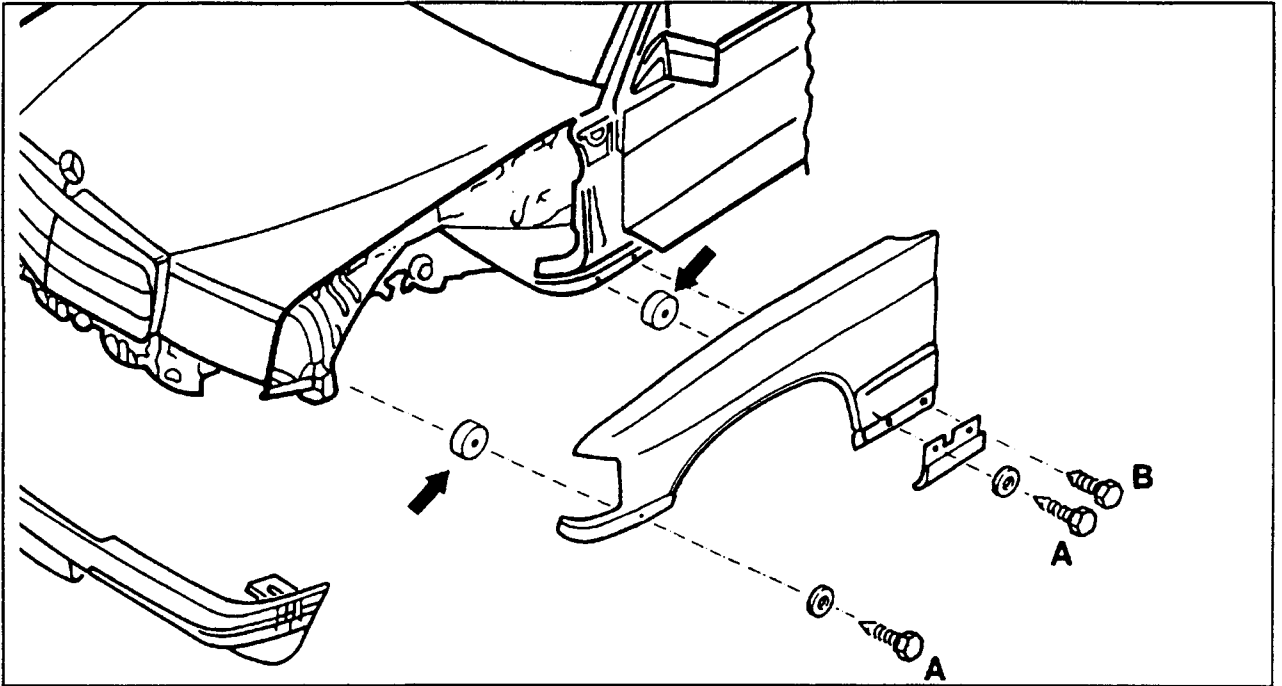

Figure 4
5. Press sides of bumper downward and unscrew bolts (A and B, Figure 4). Position spacers (arrows) between fender and body as shown. Ensure that the holes align for easier installation.